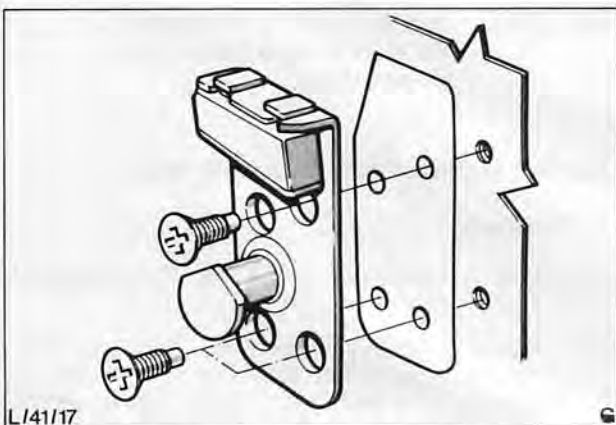

Fig. 23. Door striker plate assembly
- 1. Open door, mark around striker plate to facilitate reassembly, remove screws and detach plate, Fig. 23.